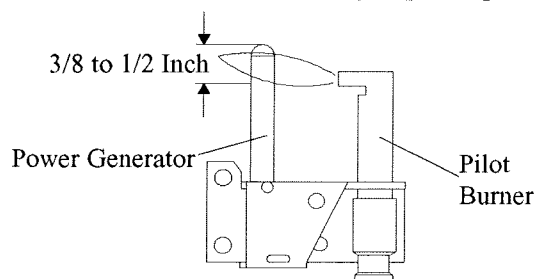

FIGURE 11. PILOT BURNER ADJUSTMENT
2. Adjust pilot key to provide properly sized flame. See Figure 11 for properly sized flame.